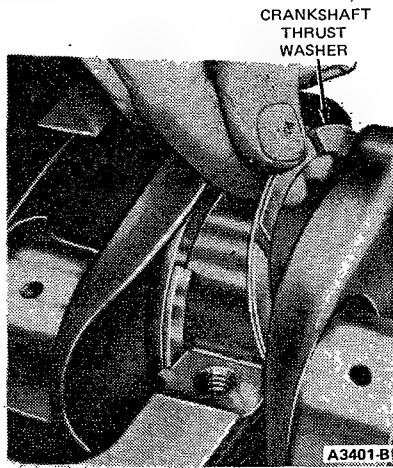

Fig. 41A Crankshaft End Play
3. Install the correct thickness of thrust washers to establish the specified end play (Figure 41A).